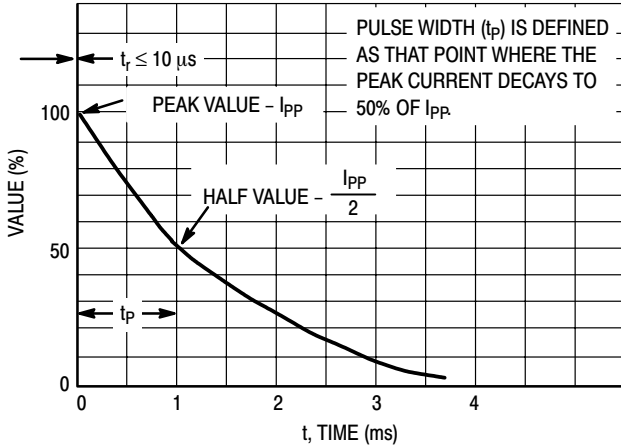
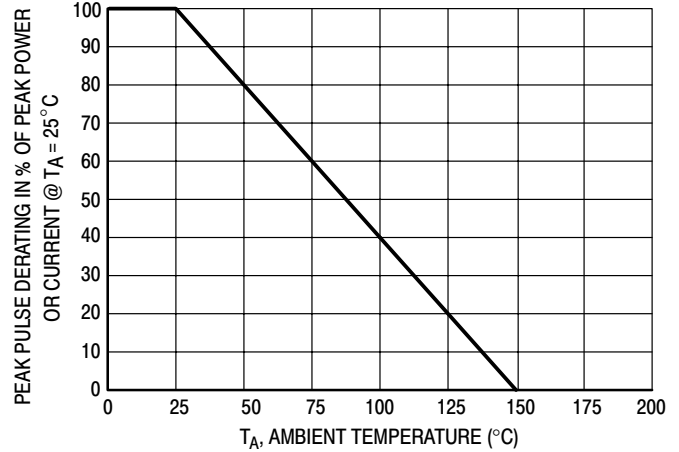

Figure 5. Pulse Waveform
Figure 6. Pulse Derating Curve
1. Non-repetitive current pulse per Figure 5. and derate above $T_A = 25^\circ\text{C}$ per Figure 6.
6. Surge current waveform per Figure 5. and derate per Figure 6.